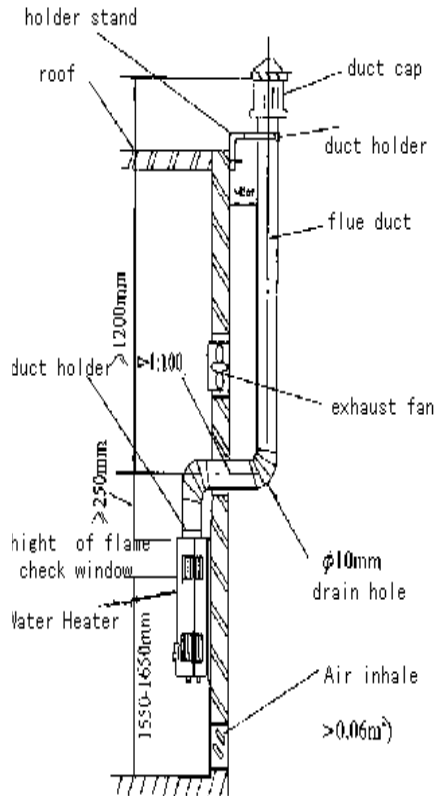

Fig. 9
- Drill proper holes on the wall according to the right dimensions of the heater (See Fig. 9).